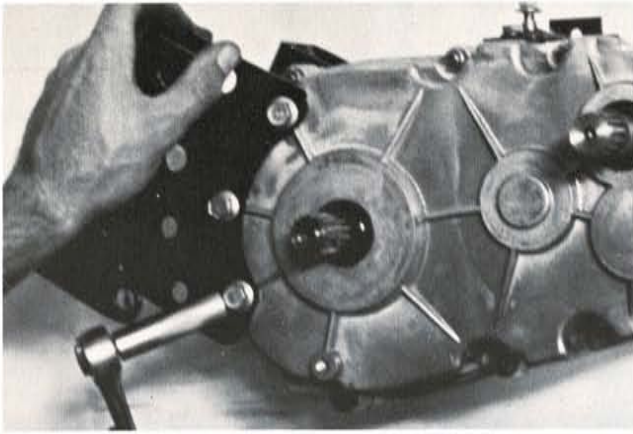

Fig 5
1. Remove brake caliper mounting brackets. During reassembly, mounting brackets must be assembled in three uppermost mounting holes. (Fig 5)